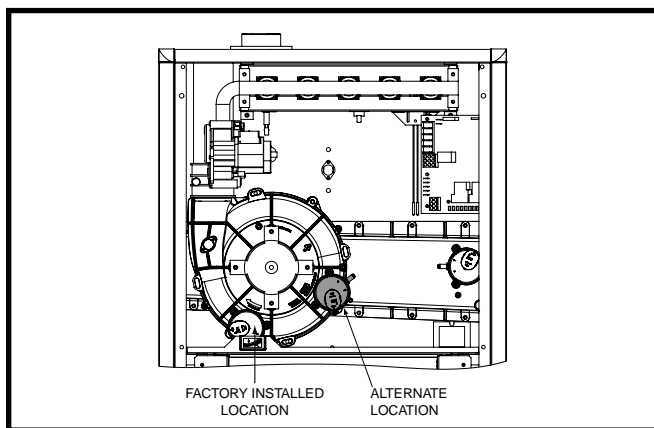

Figure 26. Alternate Pressure Switch Location
4. Remove the pressure switch from the mounts on the inducer housing and relocate it to the other set of mounts 90° from previous location. See Figure 26.